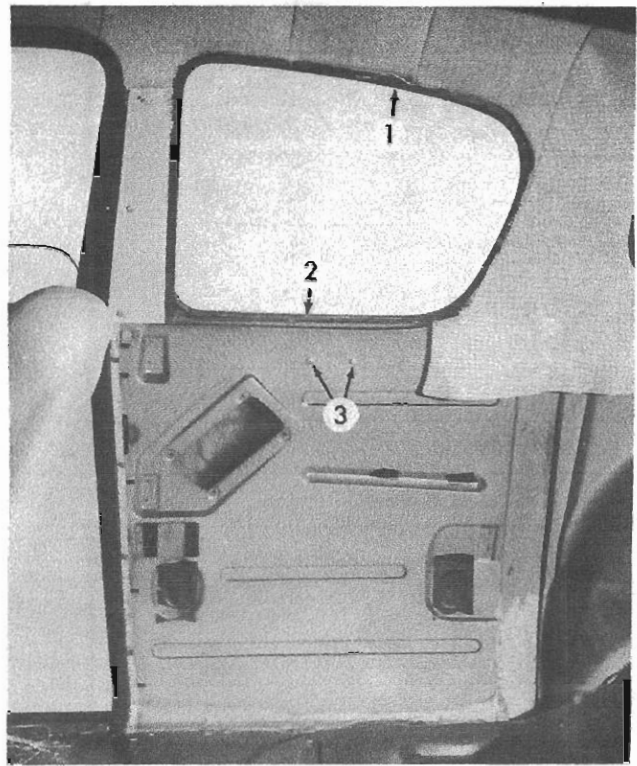

FIG. 16
Removal -- To remove the rear quarter window glass, first remove the seat cushion and seat back. Remove the garnish moulding. To remove the trim panel; remove the screw at the upper front corner, the drive nail at the upper rear corner and unsnap the clips at the front edge of the panel. Remove the two screws (3, Fig. 16) which retain the support block at the bottom edge of the glass. Hold the glass in position while removing the support block. Carefully lower the glass until it rests on the stops at the bottom of the channels. Remove the window run (1) and the outer weather seal (2) from the opening. Lift the glass and as it approaches the top of the opening tilt the top of the glass inward. Continue to lift and remove it from the body.